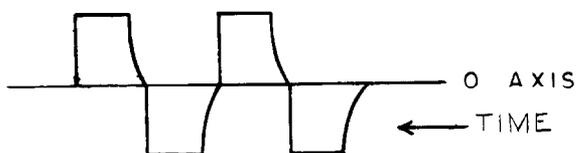

Figure 3
3. Observe the waveform across windings 3 and 4 of L1ST with an oscilloscope and compare with Figure 3.